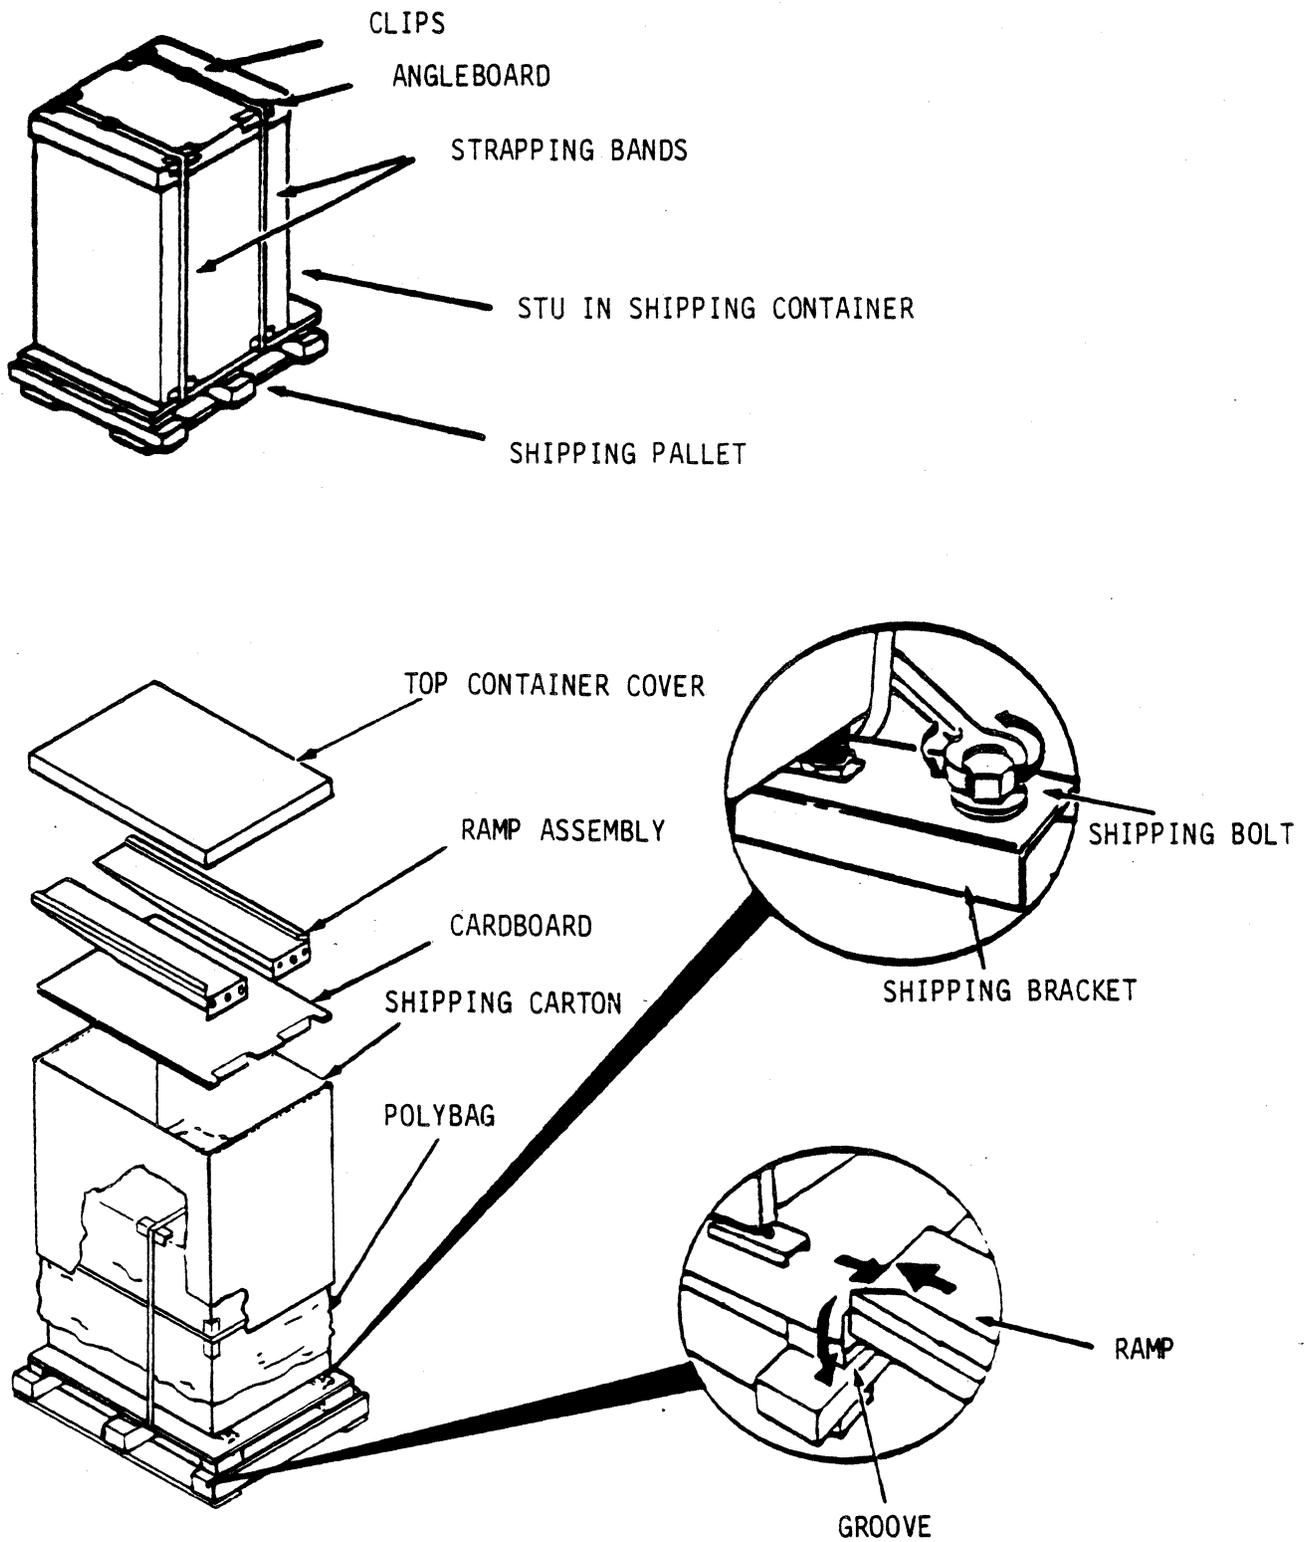

Figure 3-16. In Cabinet STU Unpacking
1. All shipping materials should be retained in case of future unit reshipment. Steps 2 thru 11 may be referenced to figure 3-16.